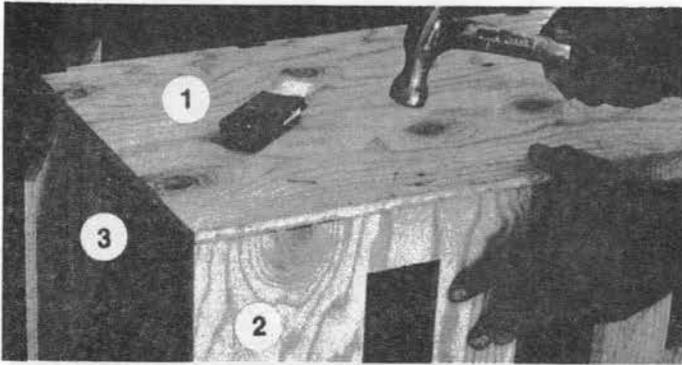

Fig. 8
Quickly assemble parts one and two pressing firmly into place (FIGURE 8). Keep bending and pressing the parts together until the hot glue "grabs" — in about 30 seconds. Make sure the parts are properly aligned and flush. Nail the joint with #18 by 7/8 inch long wire nails spaced about two inches apart.
You will note in (FIGURE 8) that one of the parts of equal height (3) works nicely as an aid in holding the parts properly aligned while assembling and nailing.